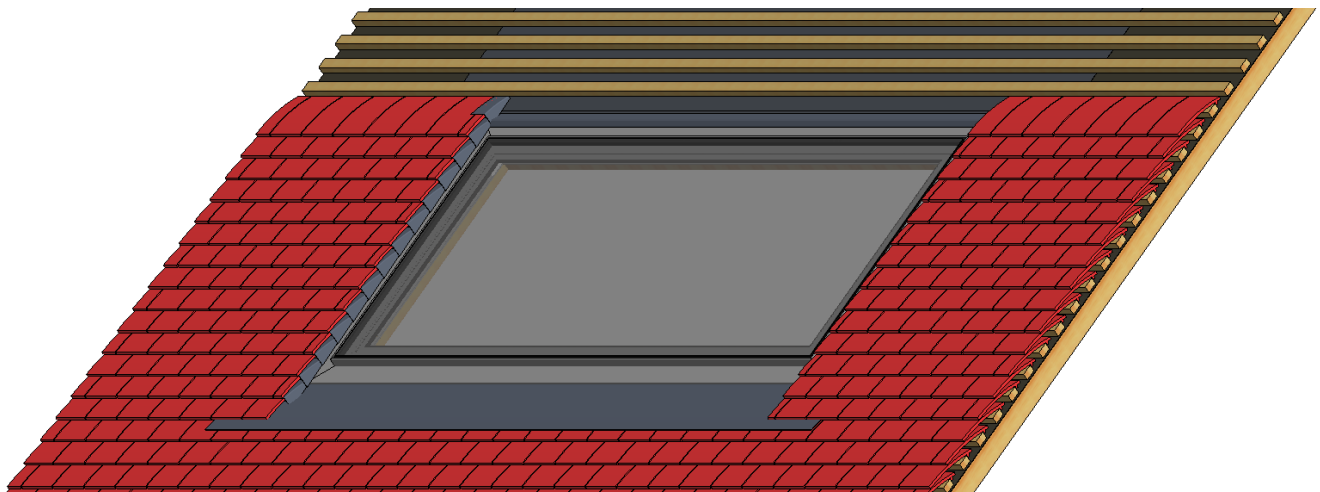

Fig. 13b – Jambs tiled and soakers installed
- Tile to either side of the product, installing the soakers (fig. 13b)